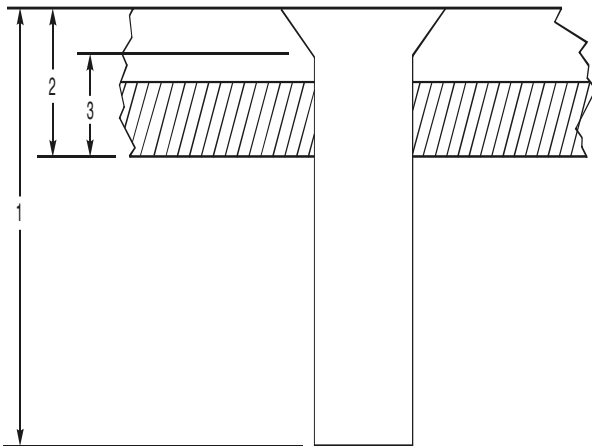

Figure 2.10.
- 184. (Refer to figure 2.10.) Which is the grip length of the flush rivet?